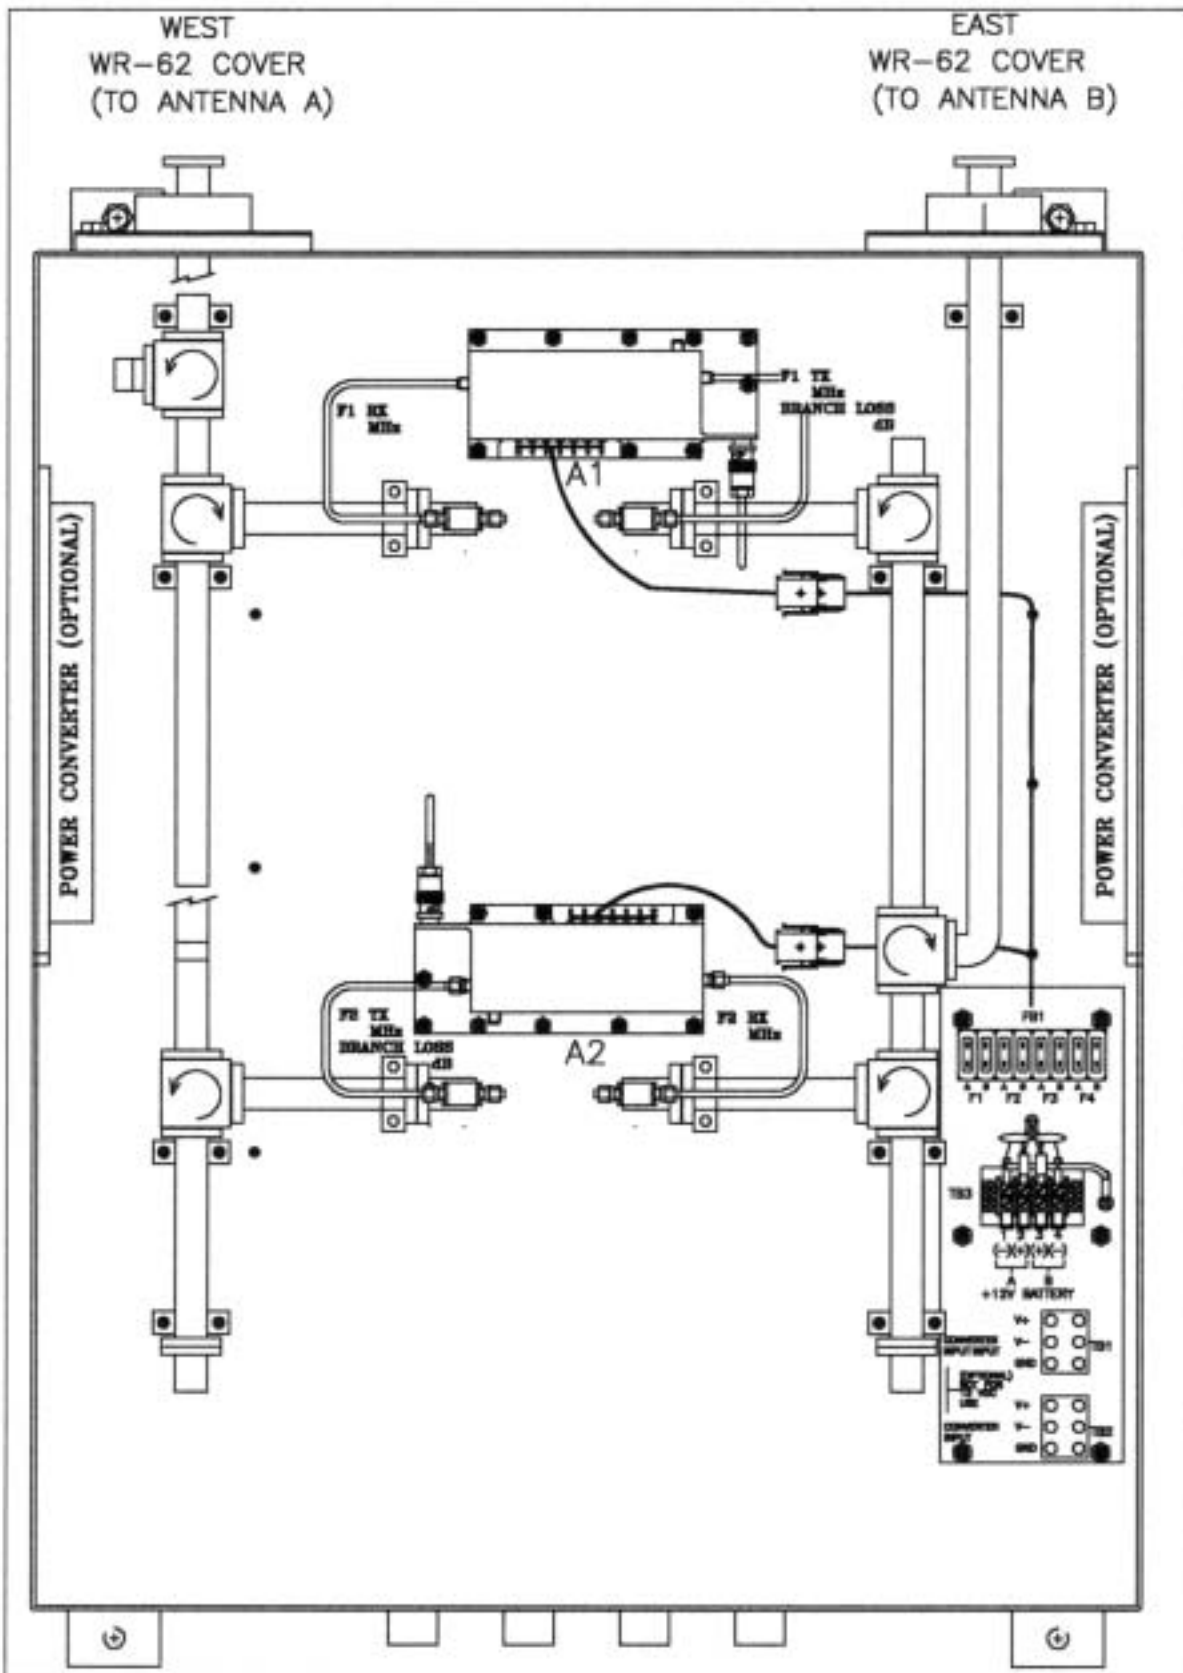
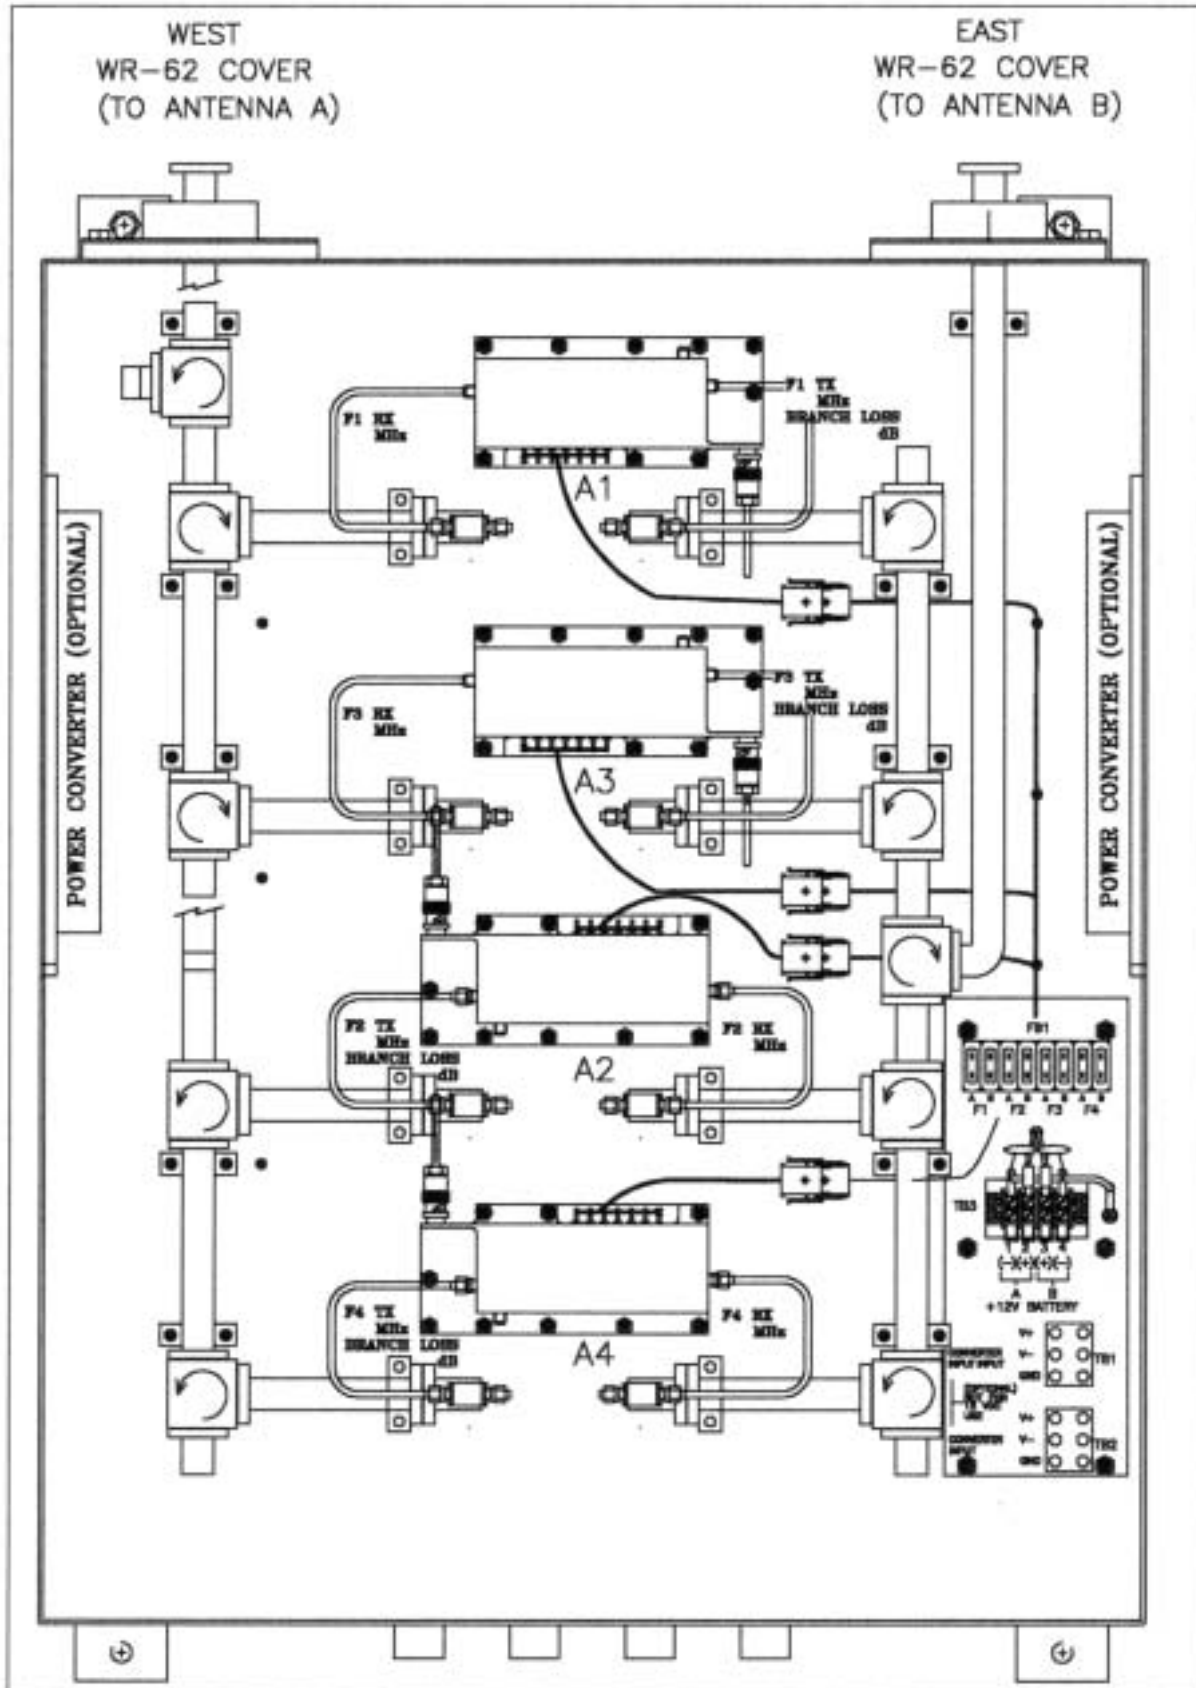

Figure 1. Mechanical Layout (Duplex Repeater)
Figure 2. Mechanical Layout (Frequency Diversity)
- The Repeater assembly is contained in an aluminum, weathertight cabinet. The complete assembly can be wall-mounted, but in most applications, it is pole- or tower-mounted. See Figure 1 and Figure 2 for front views of the repeater in different enclosure sizes.